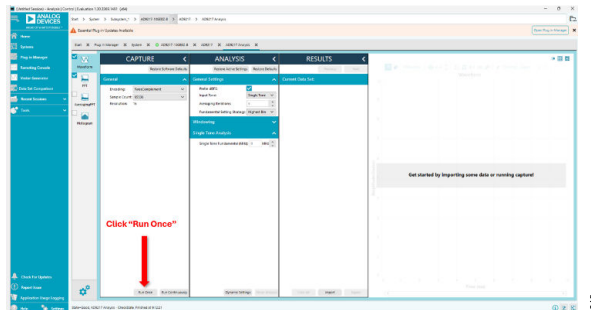

Figure 13. Time Domain View of the Converted Data
14. The analysis page then appears. Click **Run Once** to get a time domain view of the converted data (see Figure 13).